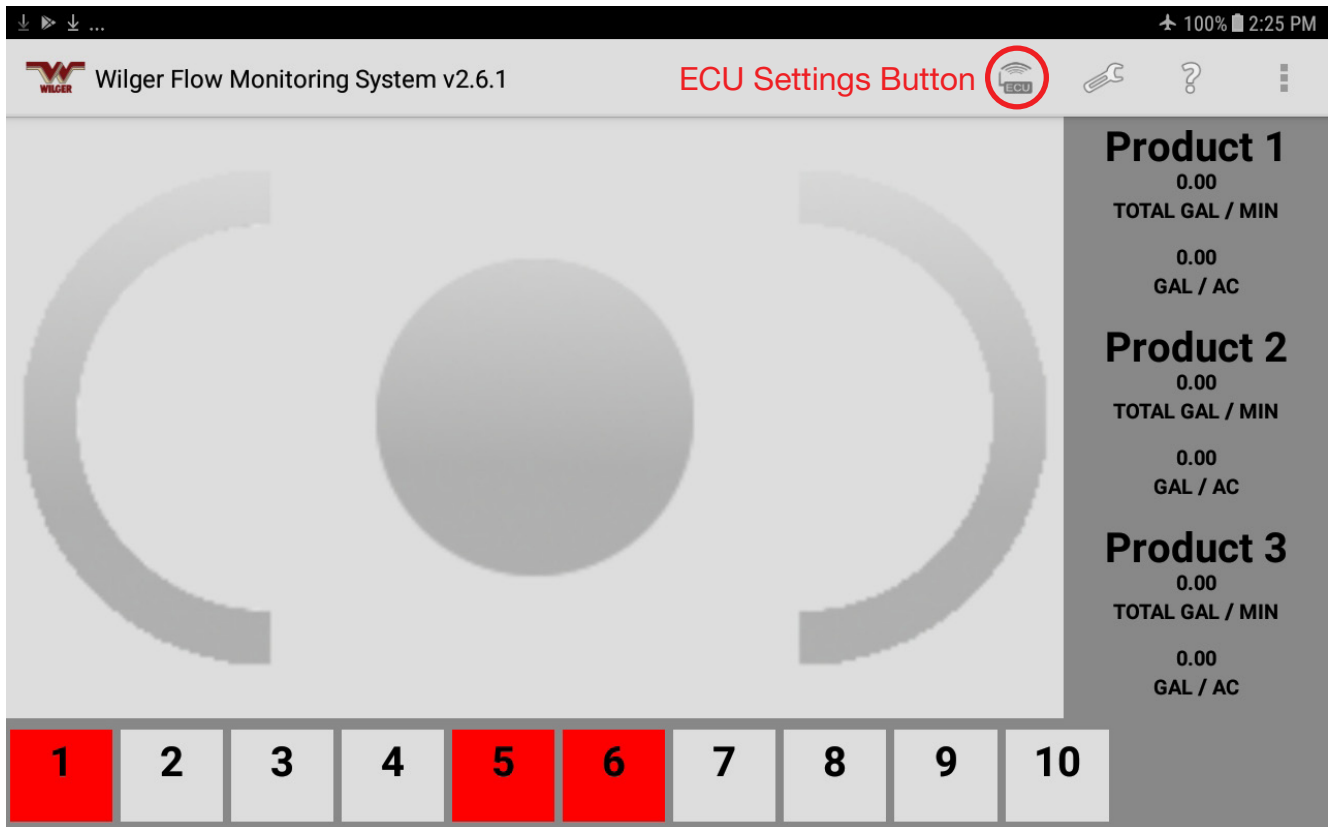

Figure 25. No ECU Connectivity.
4. On the Main Overview screen, tap the ECU Main Settings  icon. (See Figure 25).
1. On the Main Overview screen, tap the Sensor Settings icon. (See Figure 25) The Sensor Setup page #1 appears.